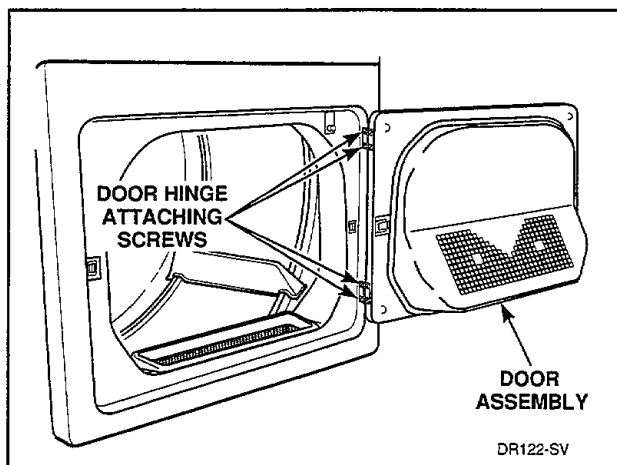

Figure 10
- Remove screws holding loading door and hinges to front panel, *Figure 10*.
- Support door and remove four screws holding hinges to front panel, *Figure 10*. Remove complete door assembly.